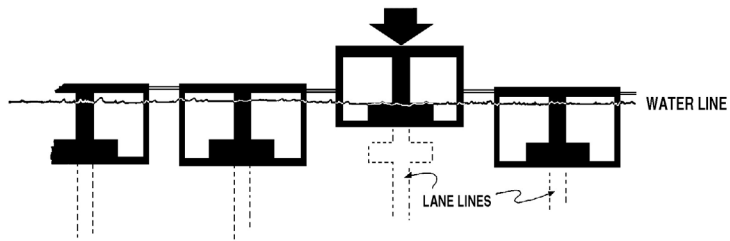

Figure 2
- 3) Ease the pad for lane one alongside the pool wall and into place. Press the pad down firmly to bond the Velcro® material (see Figure 2).